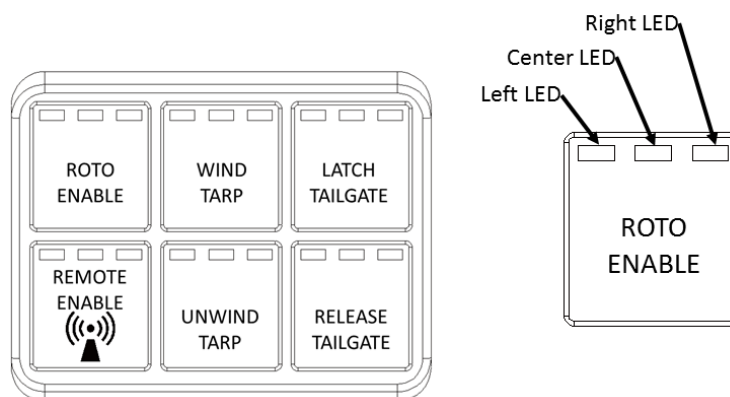

Figure 2.2.2 - Keypad Top View & LED Locations
3. Press the "ROTO ENABLE" button found on the keypad. All 3 LEDs will illuminate on this button when the ROTO 180 system is enabled, see Figure 2.2.2. If the left LED blinks when this button is pressed, the PTO has not been engaged. If the right LED flashes during this step, reference Section 3.4 for troubleshooting the fault code(s).